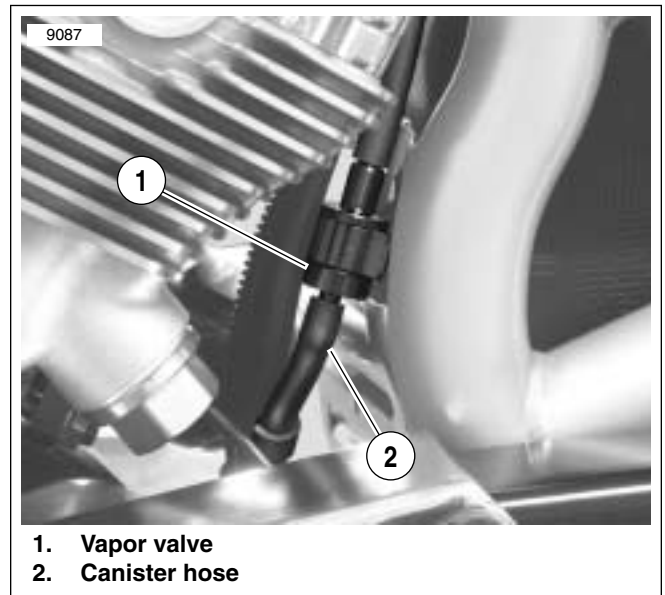

Figure 5. Vapor Valve and Hose: VRSC Models
- **VRSC models:** See Figure 5. The vapor valve (1) is located on the left hand frame rail directly in front of the fuel tank. No vehicle disassembly is required to remove the canister hose (2) from the valve.